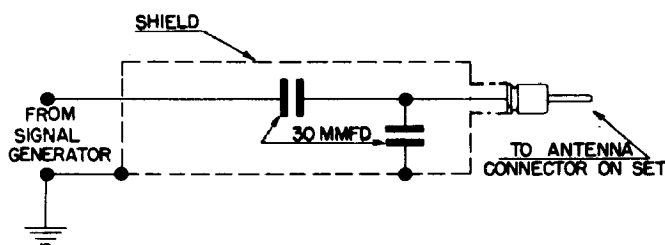

Fig. 9. Dummy Antenna
Fig. 9 shows the schematic of a recommended dummy antenna, closely resembling actual antenna capacity, to be used in series with signal generator leads when aligning the R.F. section of the receiver.
- 1—Connect signal generator leads through dummy, illustrated in Fig. 9, to antenna lead in socket on receiver. This is important.
- 3—Connect signal generator leads through dummy, illustrated in Figure 9, to antenna receptacle on the receiver. This is important.